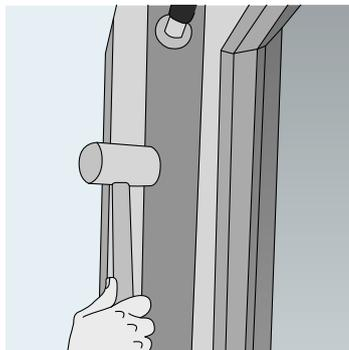

Figure 18
- c. Finish the installation by gently tapping the aluminium part into place using a rubber mallet (figure 18).